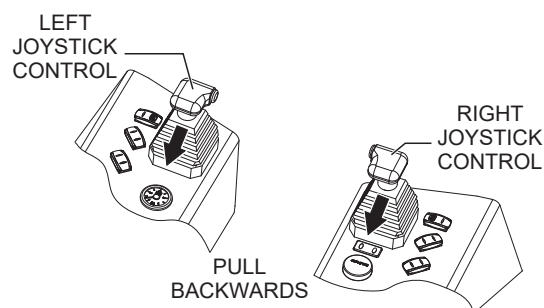

Figure 29. Joystick Control Reverse Direction
7. Pull both the left and right joysticks backward (Figure 29) and repeat steps 3 through 6 while substituting the word reverse for forward.